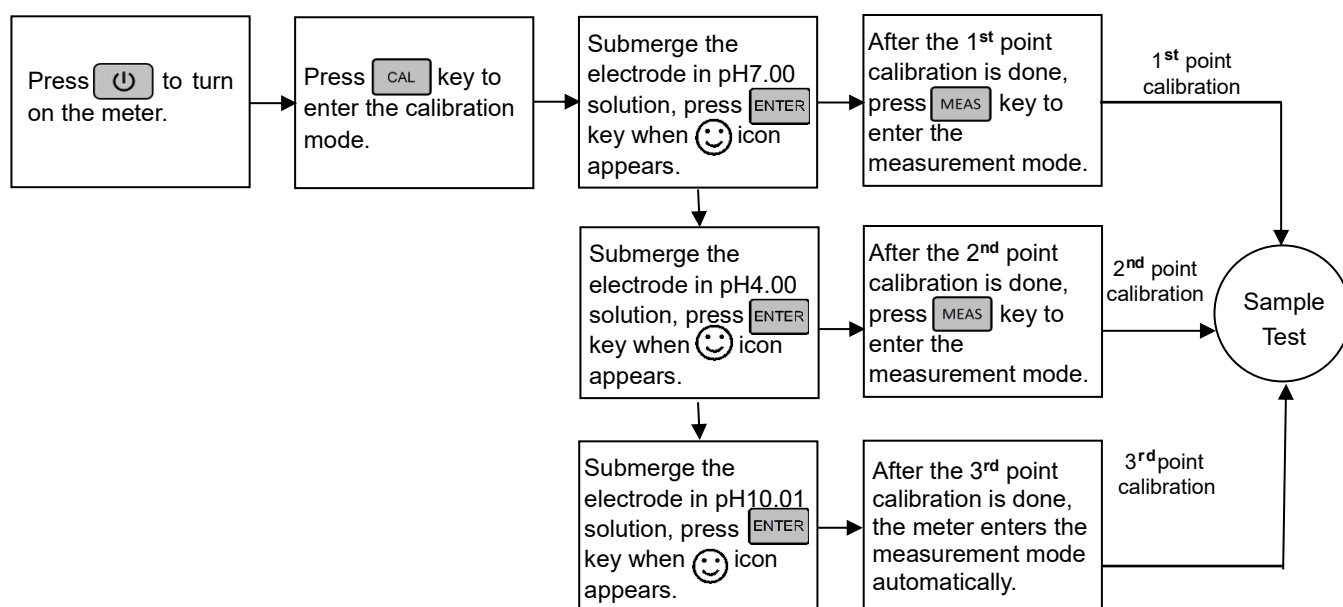

Figure-10
5.5.1 Rinse the pH electrode in distilled water or distilled water, dry it, and dip it into sample solution. Stir the solution gently and let it stand still in the sample solution until 😊 icon appears and stays on LCD, get the pH reading, which is pH value of sample solution, please refer to Figure-10 for calibration and measurement process of the pH meter.